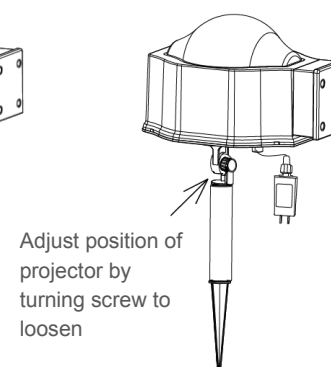

Figure 2
- Position of projector may be adjusted up or down by loosening the plastic screw and realigning the round parts of stake and housing (Figure 2).